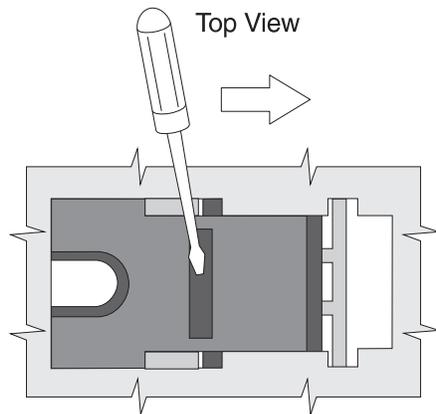
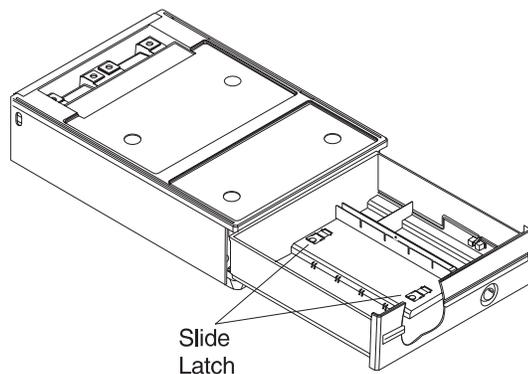

Figure 2-11. Releasing the Cash Drawer from the Slide Assembly
Figure 2-12. Removing and Replacing the Drawer
- 4 Using a coin or large screwdriver, move the drawer slide latches to the right (facing the front of the drawer, see Figure 2-11 and Figure 2-12) until the drawer is released from the side assembly. Lift the drawer out.